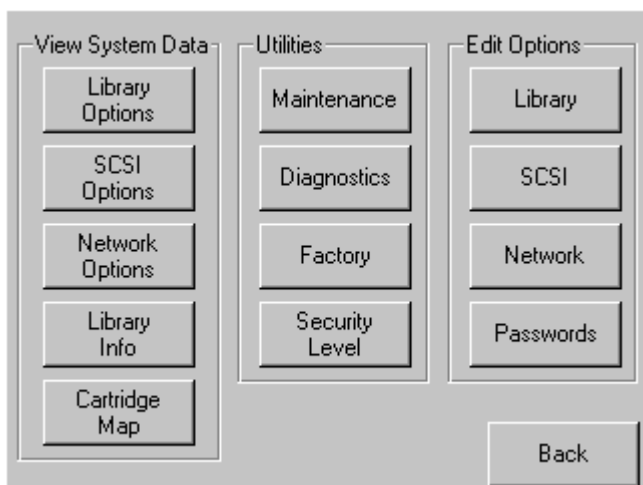

Figure 26 Menu screen
2. Touch the **Library** button from the **Edit Options** area of the GUI (see Figure 26).
2. Touch the **Library** button from the **Edit Options** area of the GUI (see Figure 26 on page 36).